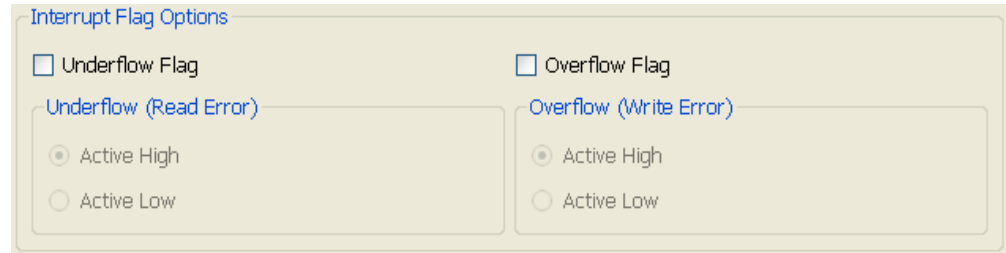

Figure 8-12: AXI4-Stream Interface FIFO: Page 5 - Interrupt Flag Options
- Overflow Flag and Underflow Flag options of Native Interface FIFOs can be set through similar settings on Page 5 of the AXI4-Stream FIFO GUI, shown in Figure 8-12.